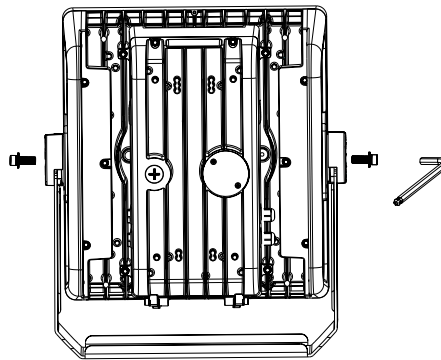

Figure 1
- Fix the trunnion mount to the radiator with M10 screws, adjust to the required angle, and use tools to fix the screws in place (Figure 1).